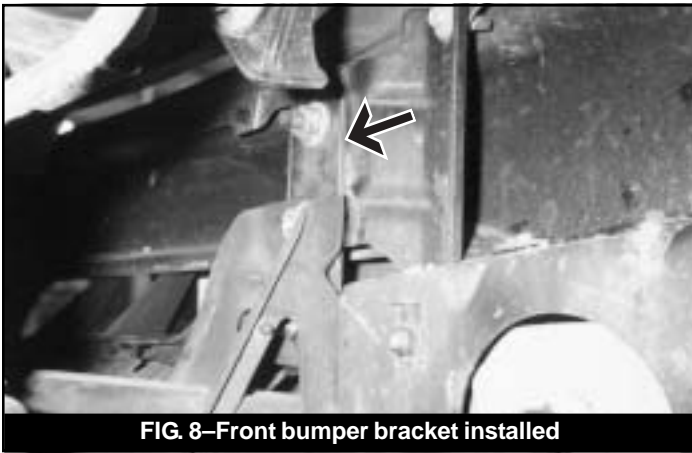

FIG. 8—Front bumper bracket installed
- Using the stock nuts mount the bumper to the middle and upper holes in the relocating brackets. The lower bumper stud now mounts through the relocating bracket and the frame (Fig. 8).